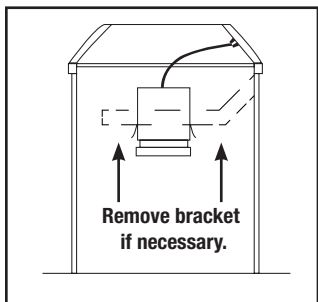

FIGURE 6
2. Remove medium-base mounting bracket only if necessary to provide room for fixture to be installed fully and properly into the housing. (Fig. 6)